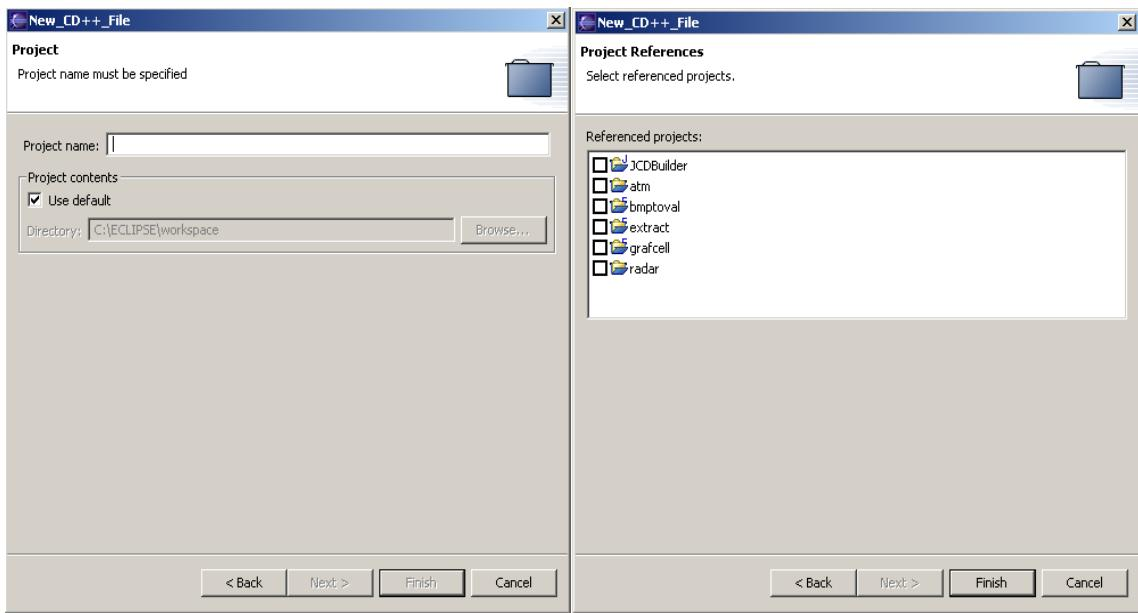

Figure 17 (a): Enter Project Name (b): Referencing existing projects
Step 3: Enter *Author's Name* (typically your name). Click *Next*. The panel in Figure 17(a) will appear.
Step 4: Enter the name of your project. At this point, *Use Default* should be checked. If you are ready to finalize your project, click *Finish*. If you want to make references to existing projects in your workspace, click *Next*. This will allow you to include models already defined for other projects in the newly created one. The panel similar to Figure 17(b) will appear.